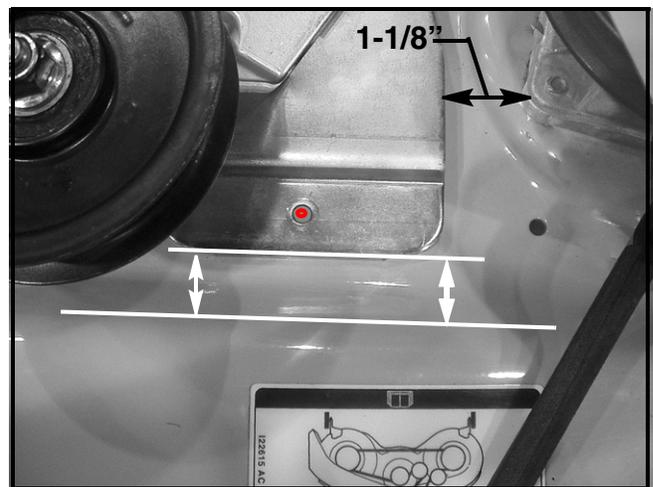

FIGURE 6
12. Position the Support Bracket so that the bracket's forward edge is parallel to the line formed by the deck's contour at that point. The dimension from the edge of the Support Bracket to the closest side of the spindle housing should be 1-1/8" See Figure 6.